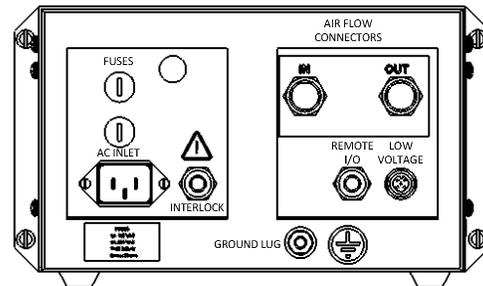

Figure 4: 9060 Connection Interface
The 9060 Controller connection interface shown in Figure 4, provides all of the required connections for setting up a local controlled painting system. This connection interface consists of one (1) low voltage cable connector, one (1) standard I/O connector, one (1) interlock I/O connector, one (1) ground lug connection, one (1) air flow switch connection, two (2) fuses, and one (1) AC inlet receptacle.